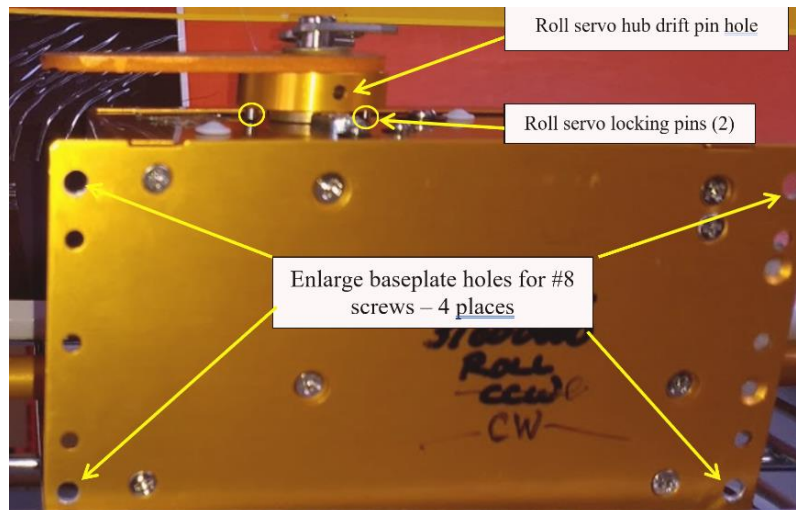

FIGURE 2-1 ROLL SERVO
- 2.3 Install the Pitch and Roll servo arms, attach screws, safety washer, and large cotter pins in accordance with Figure 2-1, 2-2, and the Illustrated Parts Catalog Document # 1006907.
- 2.4 With the **roll servo** hub drift pin aligned with stop, the servo arm must be installed parallel to the servo base plate and facing away from the DB9 connection. See Figure 2-1.